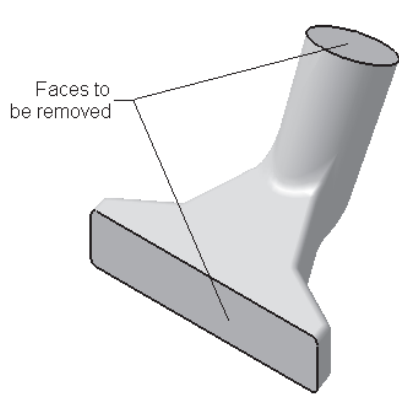

Figure 6-85 Faces to be removed
- Shell the model using the **Shell** tool, refer to Figures 6-85 and 6-86.
2. Select the faces to be removed, as shown in Figure 6-85.